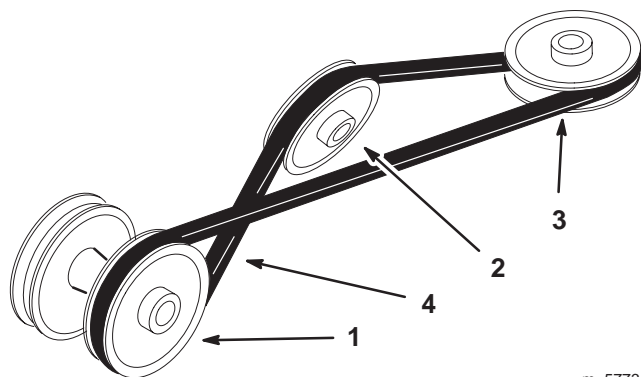

Figure 20
2. Install the bagger belt onto the drive pulley (Fig. 20 and 21).